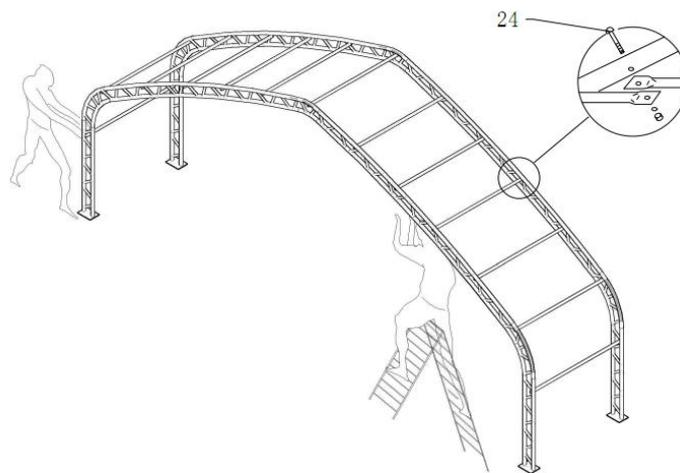

Figure 5
3.As **Figure 5** shown,after installing these two groups of arch frame, please connect the Purlin (No.6) between these two groups of arch frame using Bolt 10*90mm (No. 24). There are 13 pieces of purlins (No. 6) between each two groups. By turns, after install other groups of arch frame and purlin, the assembly of the main frame is finished.